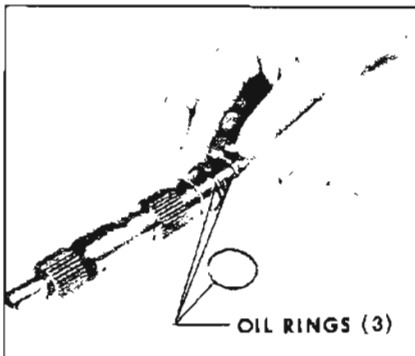

Figure 5-325
3. Install input shaft oil rings. See Figure 5-325.